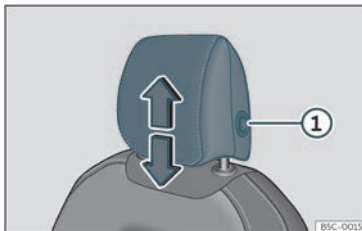
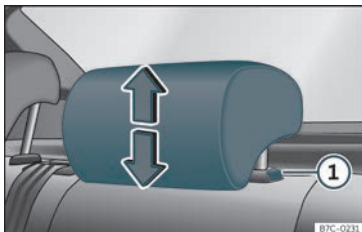

Fig. 101 Front seat: headrest adjustment.
Fig. 102 Rear headrest: headrest adjustment.
- Grab the sides of the head restraints with both hands and push upwards to the desired position. To lower it, repeat the same action, pressing the button on the side ① >>> Fig. 101 >>> Fig. 102.
- Press the side button >>> Fig. 101 ① and remove the headrest.